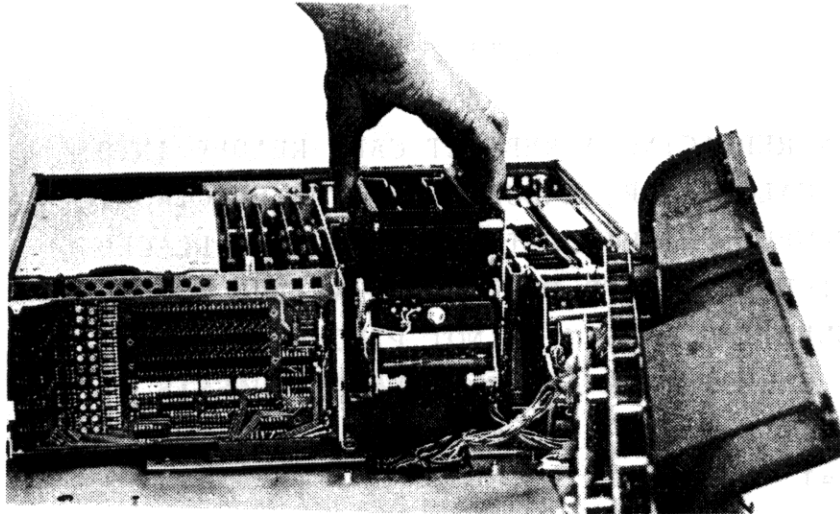

Figure 5-6. Removing the Printer
3. Remove the screws located in the front of the printer which secure the printer in place (see Figure 5-6).